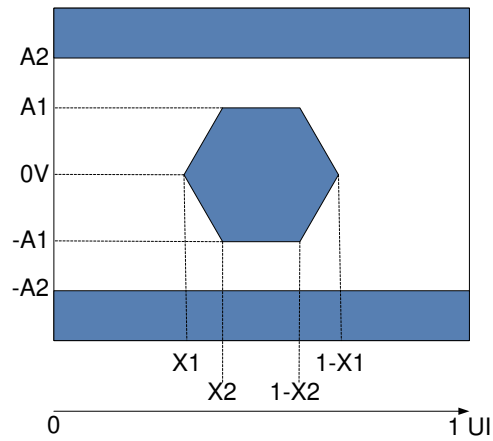

图 5-11. HSSI Eye Characteristics
- (1) All power supply connections are required to operate the DMD: V_{DD} , V_{DDA} , V_{OFFSET} , V_{BIAS} , and V_{RESET} . All V_{SS} connections are required to operate the DMD.
- (2) All voltage values are with respect to the ground pins (V_{SS}).
- (3) To prevent excess current, the supply voltage delta $|V_{DDA} - V_{DD}|$ must be less than the specified limit.
- (4) To prevent excess current, the supply voltage delta $|V_{BIAS} - V_{OFFSET}|$ must be less than specified limit.
- (5) Supply power dissipation based on three global resets in 200μs.
- (6) LVC MOS input specifications are for pin DMD_DEN_ARSTZ.
- (7) LVC MOS output specification is for pins LS_RDATA_A and LS_RDATA_B.
- (8) Refer to 图 5-11, Receiver Eye Mask (1e-12 BER).
- (9) Defined in the *Recommended Operating Conditions*
(5) See 图 5-11 for rise time and fall time for HSSI Eye Characteristics.